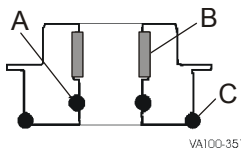

Figure 21 - Standard Top Adapter
2. Remove and replace the o-ring (Figure 21, item A) inside the adapter. For the flush/steam barrier adapters, see Figure 4 on page 13 and Figure 7 on page 14, respectively.
3. Check the split bearing (Figure 21, item B) inside the adapter by feeling the amount protruding from the adapter wall. If the bearing is flush with the wall, replace the bearing.
- Slide or cut the outer o-ring (Figure 21, item C) off the adapter. Do not nick or scratch the o-ring groove.